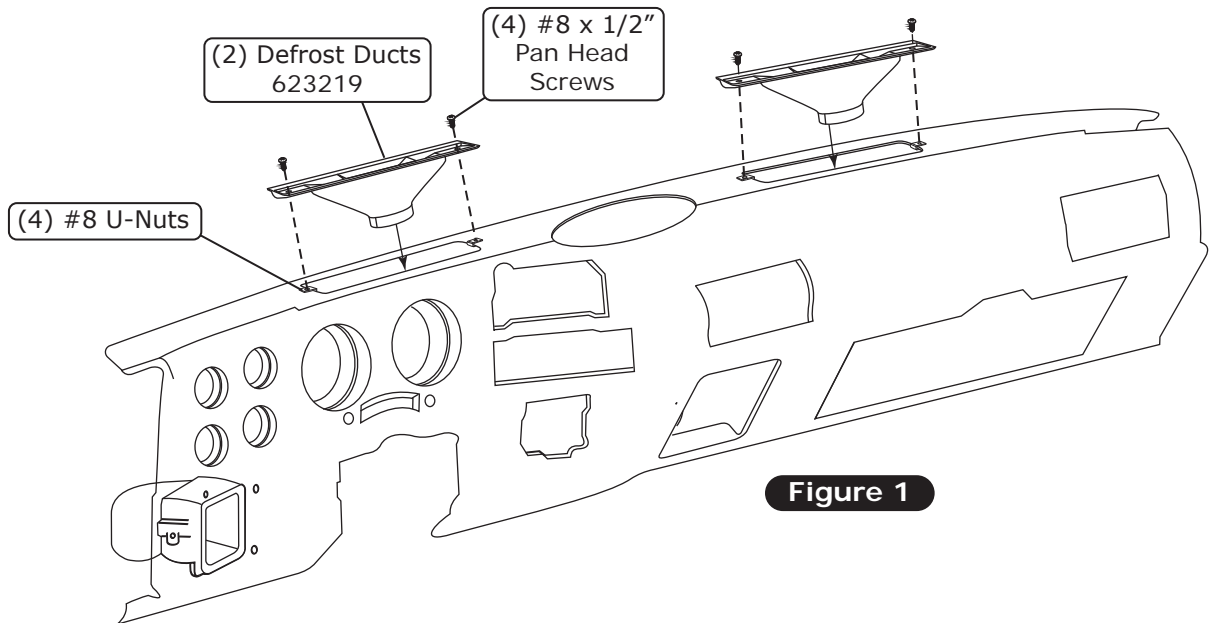

Figure 1
2. Install the driver- and passenger-side defrost ducts into the openings and secure using (4) #8 x 1/2" pan head screws (See Figure 1, below).
1. Apply a 1/4" bead of silicone around the mating surface of the fresh air cap as shown in Figure 1, below.